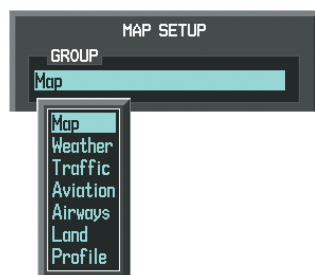

Figure 6-97 Navigation Map Page Setup Menu
- 4) Turn the small **FMS** Knob to select the 'Map' Group and press the **ENT** Key (Figure 6-97).